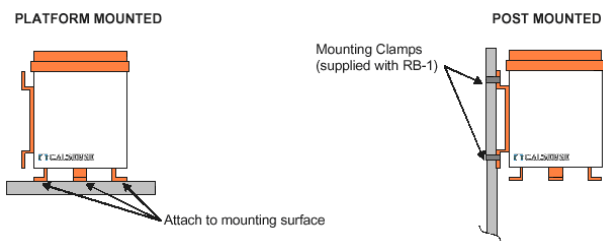

Figure 1
- 3). Installation consists of attaching the three sensor support legs to a firm platform, or securing the side bracket to a stable vertical structure (Figure 1). The sensor cable is then connected to the Irrigation controller. See External Wiring.